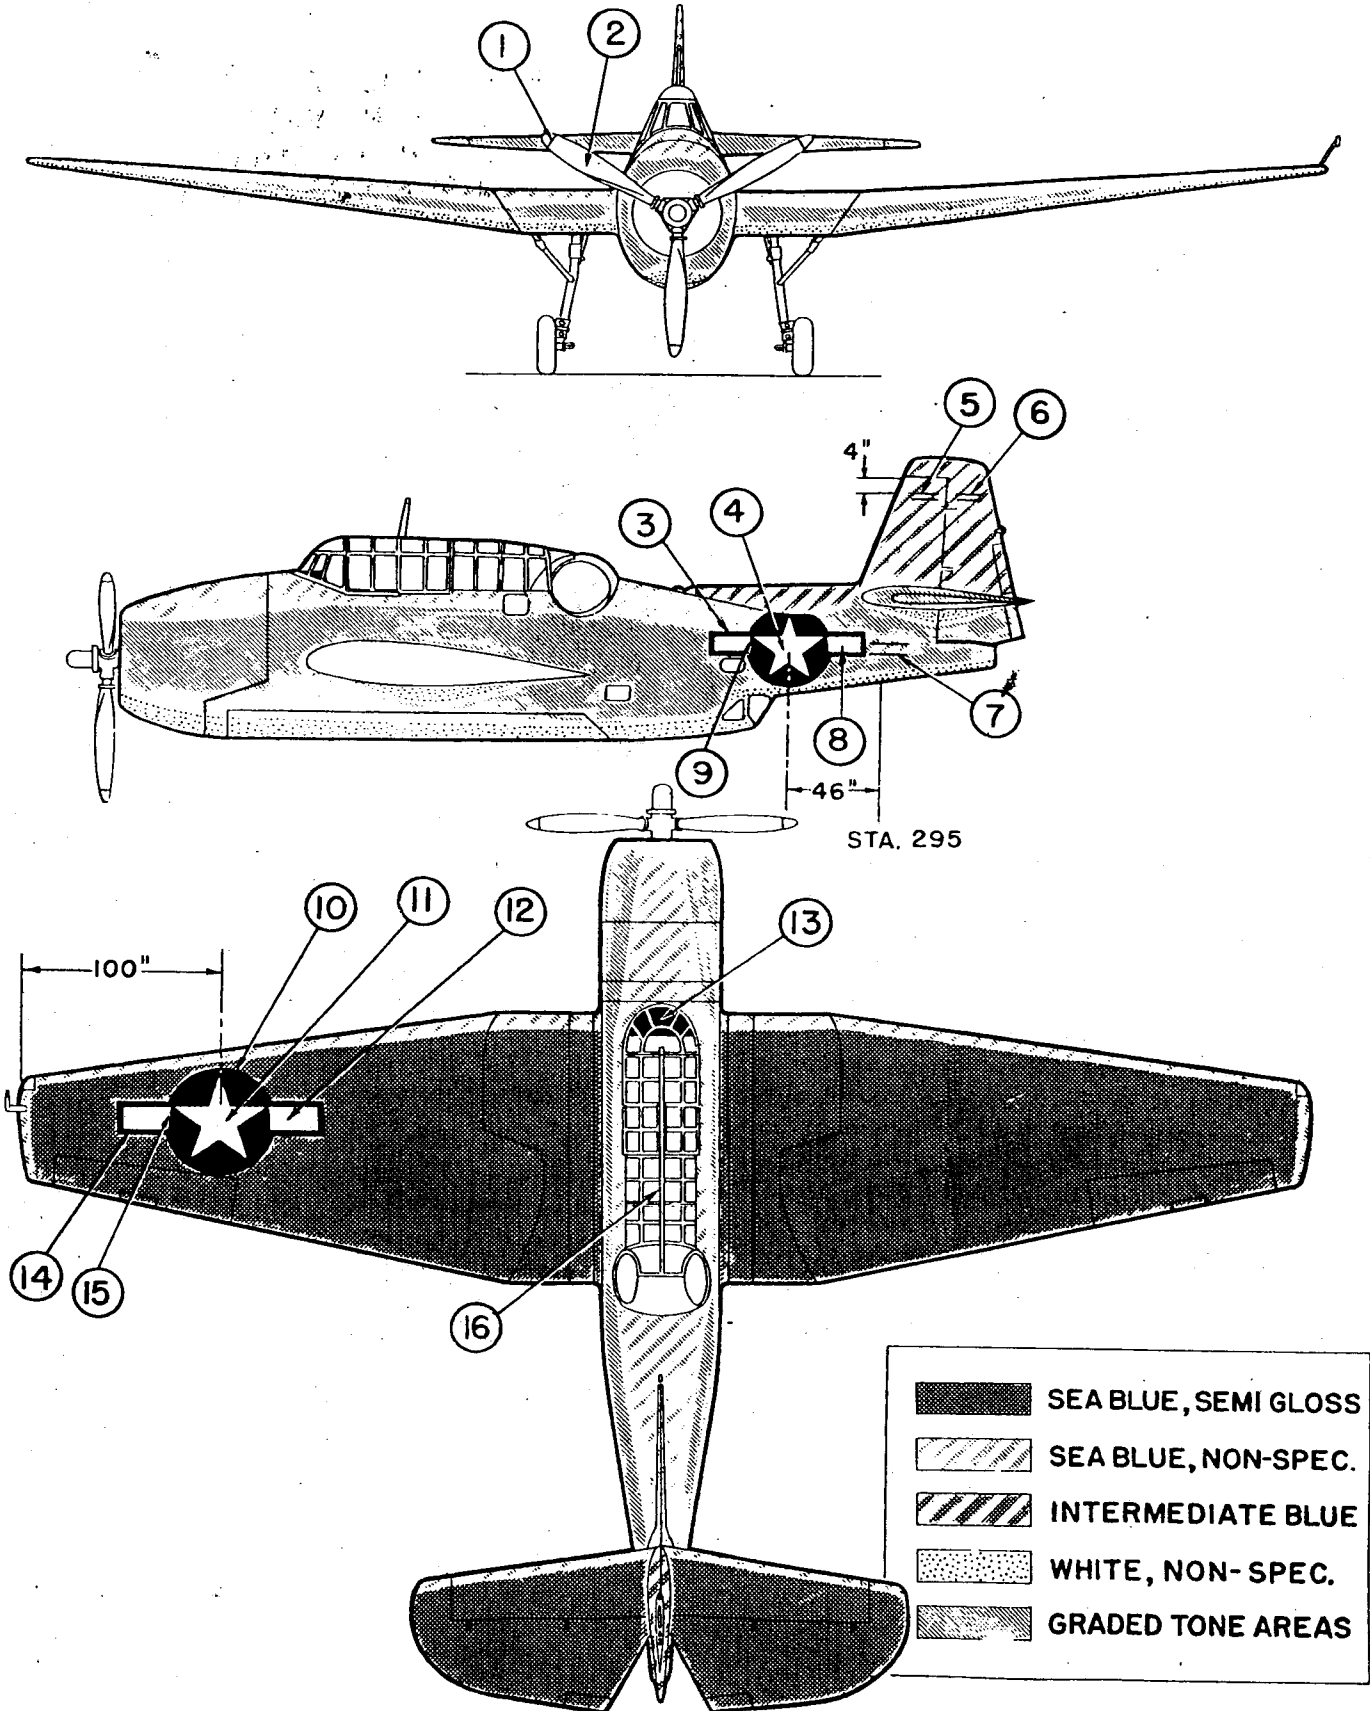

Figure 444 — Finish and Insignia
Directions are contained herein for painting, cleaning, and otherwise protecting the surfaces of metal, fabric and plastic parts of the airplane. The exterior surfaces of the first 1623 TBM-3 airplanes (Navy Serial Nos. 22857 to 23656, 68062 to 68884) are painted in camouflage colors conforming to Figure 444. The 1624th TBM-3 (Navy Serial No. 68885) and subsequent airplanes are painted a glossy sea blue, with the following exceptions:
(1) Apply one coat of zinc chromate primer, Specification AN-TT-P-656 to all aluminum alloy parts before applying glossy sea blue or camouflage lacquer, Specification AN-TT-L-51.
(2) The finish of the exterior metal surfaces and the finish of the insignia and markings shall consist of two coats of glossy sea blue (glossy insignia white on the insignia and markings) or camouflage lacquer in addition to the primer coat. For color scheme and layout for the first 1623 TBM-3 airplanes refer to Figure 444.
(3) Apply the insignia and all identification markings with glossy insignia white lacquer, conforming to Specification AN-TT-L-51.
(4) Steel parts which have been cadmium plated should be finished with one coat of zinc chromate